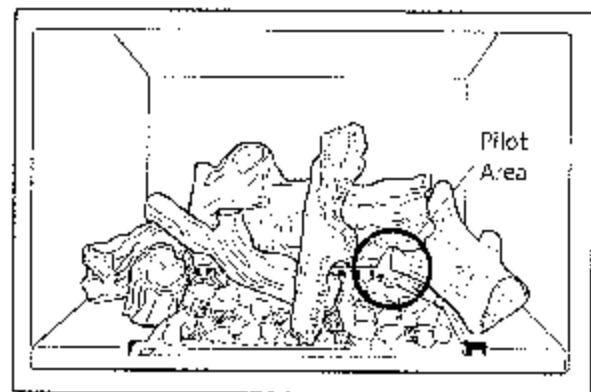

Figure 43. Install ember stones, keeping clearance around the pilot crossover area.
6. Spread a layer of ember stones evenly over the surface of the Burner Plate. Allow for 1/4" clearance between the stones and the inner edge of the Burner Skirt. **Avoid blocking the pilot flame area with ember stones.** See Fig. 43.